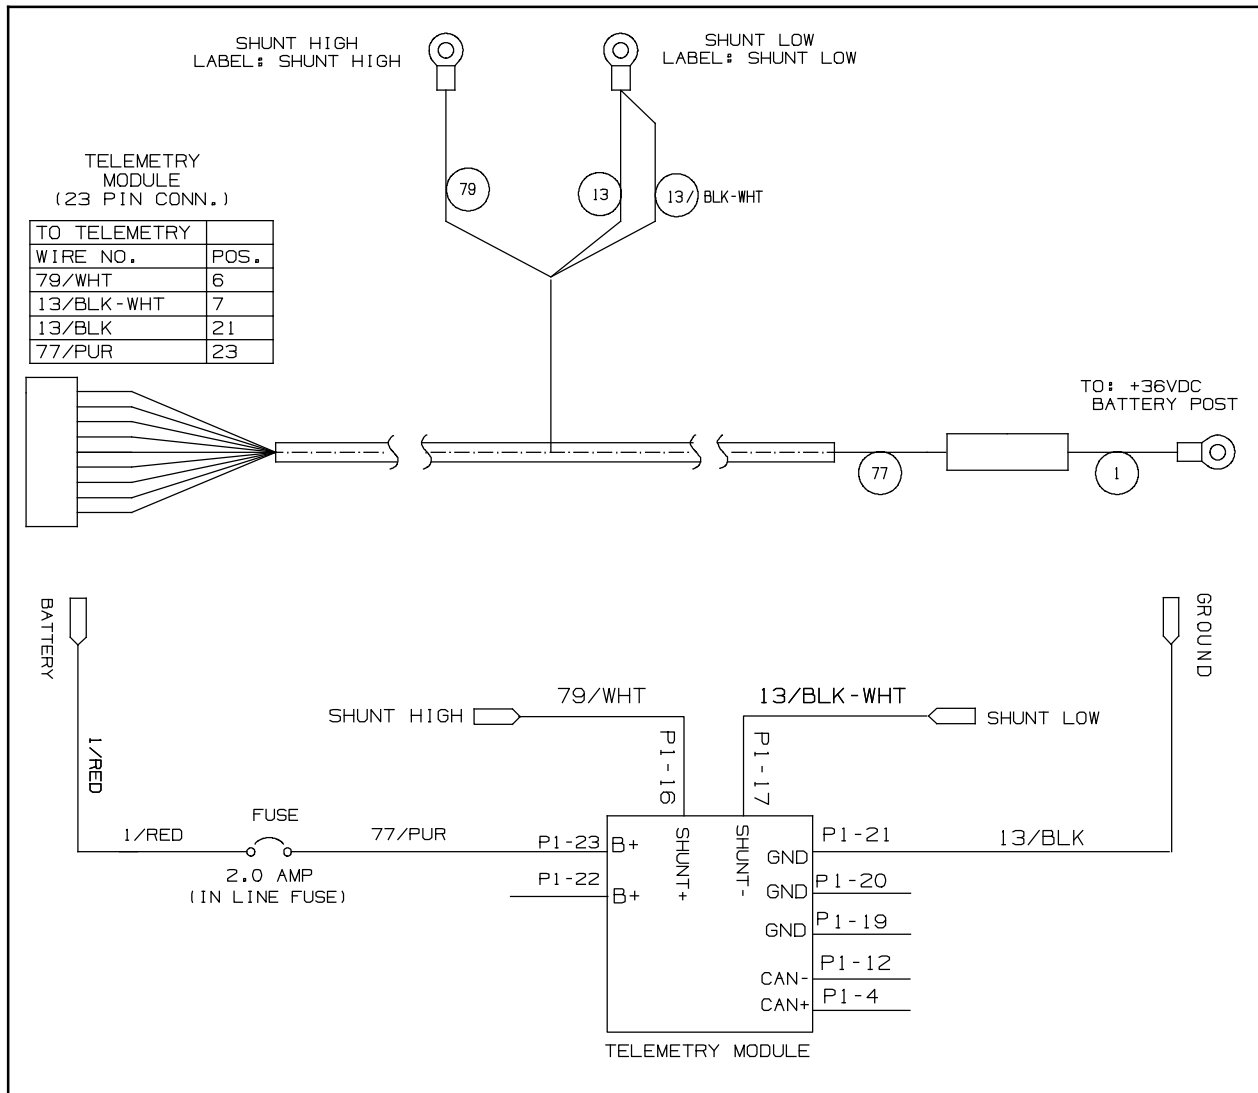

FIG. 5
7. Connect the telemetry harness (2) to the telemetry control box (1). (Fig. 4 / Fig. 5)
9. Connect the telemetry harness (2) 13/BLK-WHT wire to the shunt (9)- LOW SIDE. (Fig. 4 / Fig. 5)
10. Connect the telemetry harness (2) 79 WHT wire to the shunt (9)- HIGH SIDE. (Fig. 4 / Fig. 5)
11. Connect the battery cable (13) black cable to the side of the shunt (9) with 79/WHT wire. (Fig. 4 / Fig. 5)
12. Use saved hardware to connect the battery cable (13) red cable to the battery positive terminal. (Fig. 4 / Fig. 5)
13. Connect the telemetry harness (2) to the battery. (Fig. 4 / Fig. 5)